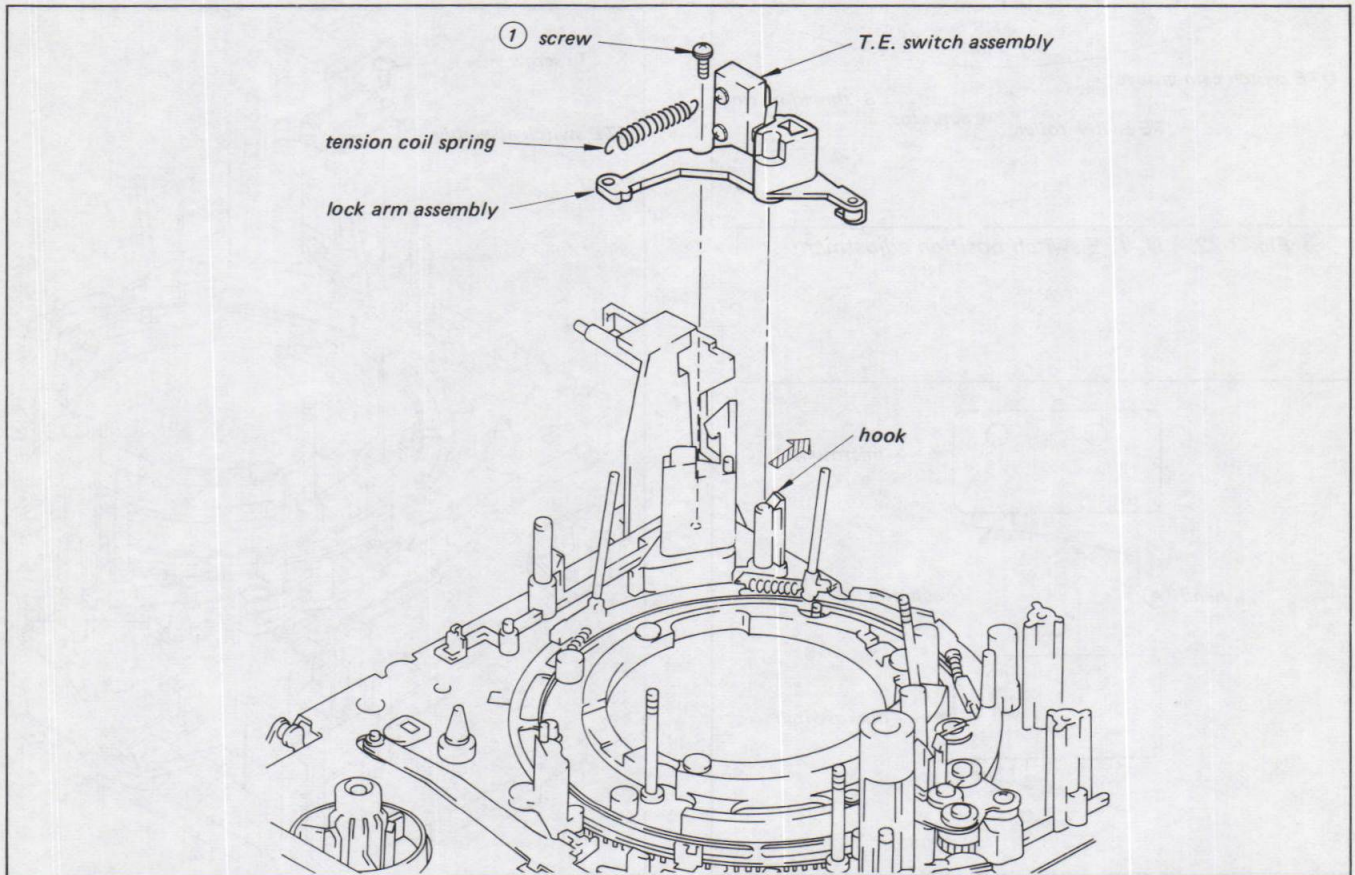
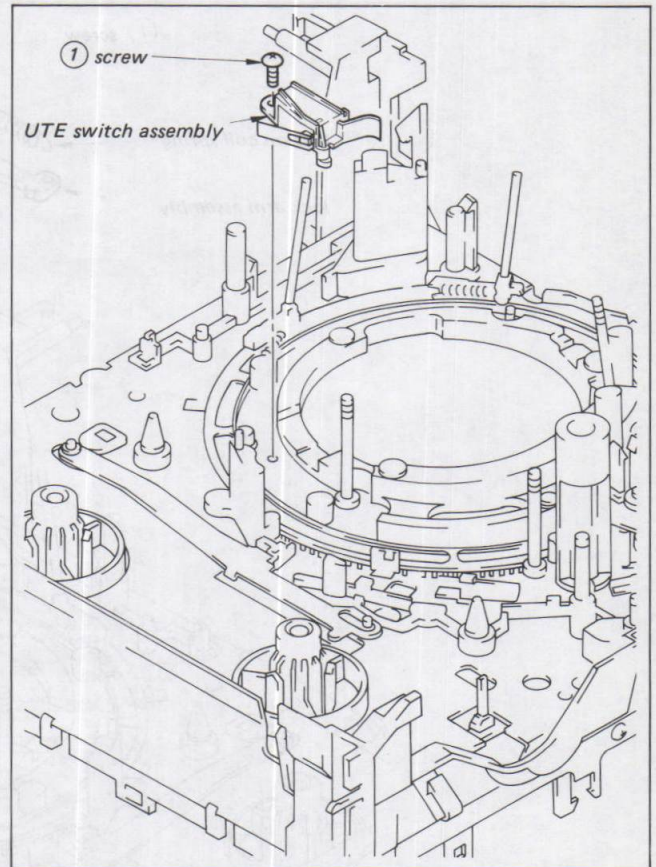

Fig. 3-21. Removal of TE switch
Fig. 3-25. Removal of UTE switch
- 2) Remove the spring of the lock arm assembly. (Refer to Paragraph 3-13-1, Fig. 3-21)
- 3) Remove stop washer ① and ring roller ②.
- 4) Remove the UTE switch subassembly. (Refer to Paragraph 3-13-2, Fig. 3-25)
- 5) Unscrew screw ③ and remove the ring roller adjust plate ④ and ring roller ⑤.
- 6) Remove the S-threading ring assembly ⑥.
- 1) Unscrew screw (1) as shown in Fig. 3-25.